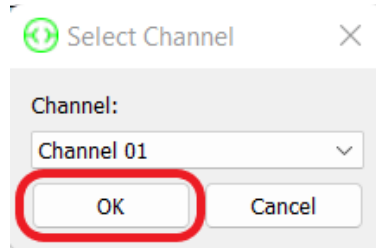

Figure 115: Recovering Chart Data - Select Channel Window
4. If all channels are stopped, the system will open the 'Select Channel' window shown in Figure 115. Pick which channel you need to recover data from and click 'OK'.